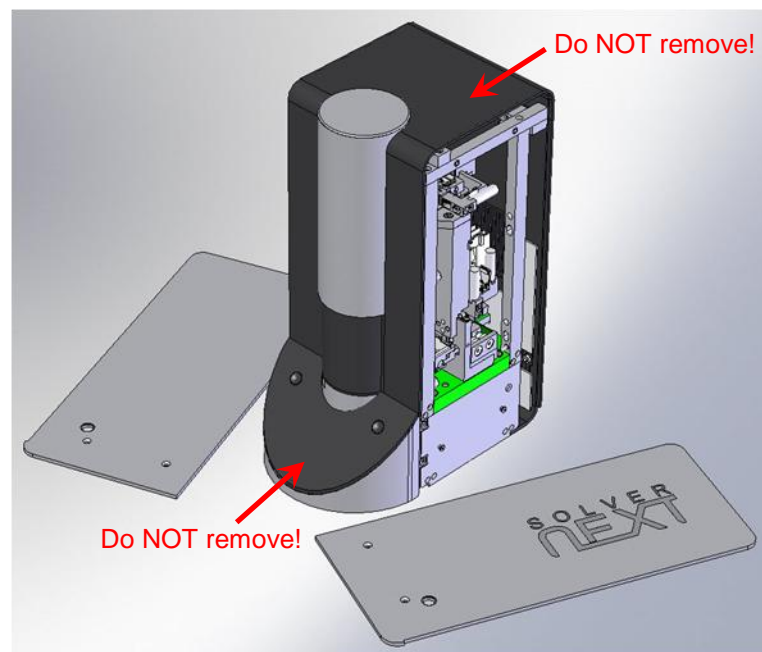

Fig. 2-11. Side panels of the measuring unit removed
1. Remove the side panels of the measuring unit of SOLVER NEXT by unscrewing two screws at each side of the instrument (Fig. 2-11).
ATTENTION! Never remove panels of the measuring unit indicated with arrows in Fig. 2-11 because they can be assembled only at the factory.